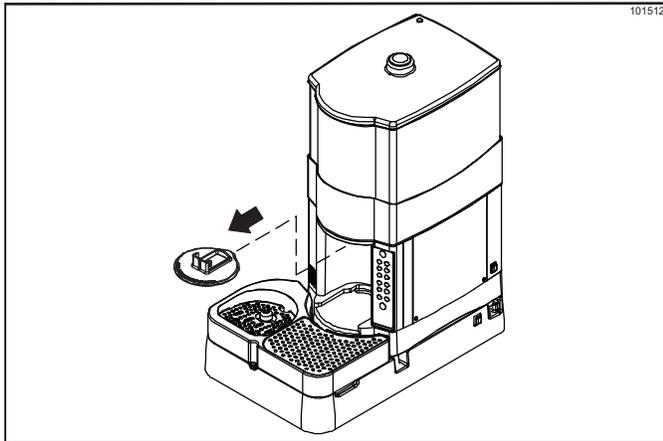

Figure 6-5
- Remove the splash guard and take it to the sink for cleaning. (See Figure 6-5.)